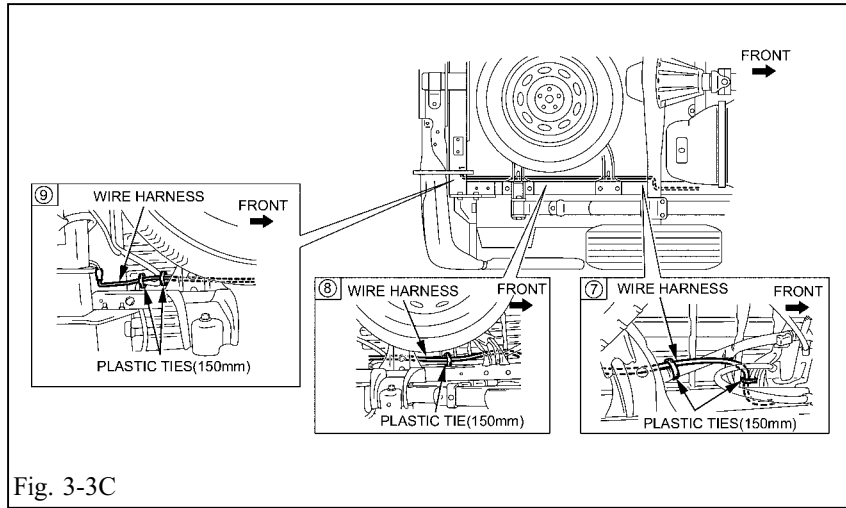

Fig. 3-3C
(2) Route the wire harness so that it does not interfere with the brake pipe, fuel pipe, and others. Use the amount of ties listed in the table below. (Fig. 3-3C)